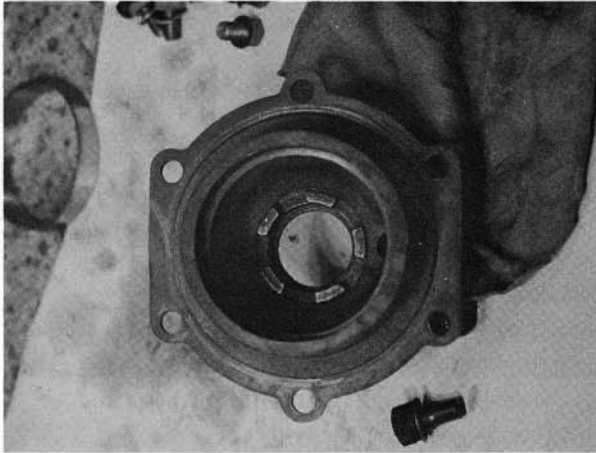
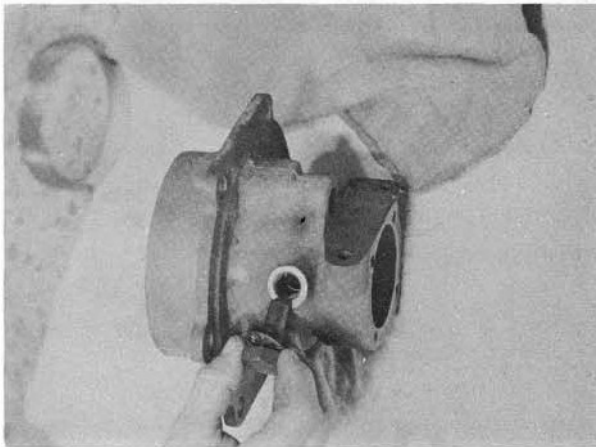

Figure 36
Figure 37
12. Now place the Stationary Clutch (6720) in the Axle Housing, lining up the hole in the Stationary Clutch with the drilled and tapped hole in the axle housing. Bolt the Stationary Clutch in place with the Clutch Bolt (pictured in Figure 36). Figure 37 shows where the bolt goes.